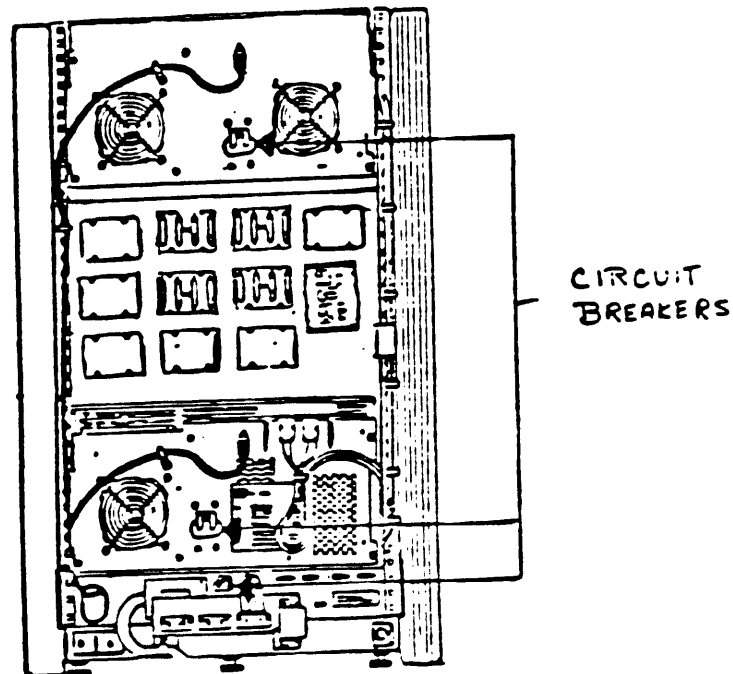

Figure 2-32. Set the three circuit breakers to the ON position.
Step 23: Make sure that the three circuit breakers at the rear of the system unit are set to 1(on) (see Figure 2-32).